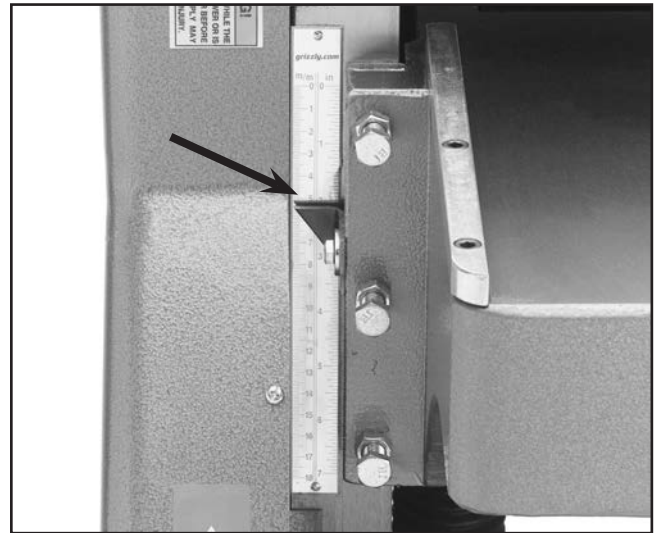

Figure 18. Table height scale and pointer.
8. Notice the position of your pointer on the table height scale (shown in **Figure 18**). Lower the table approximately 1mm on this scale (this is very close to .040").